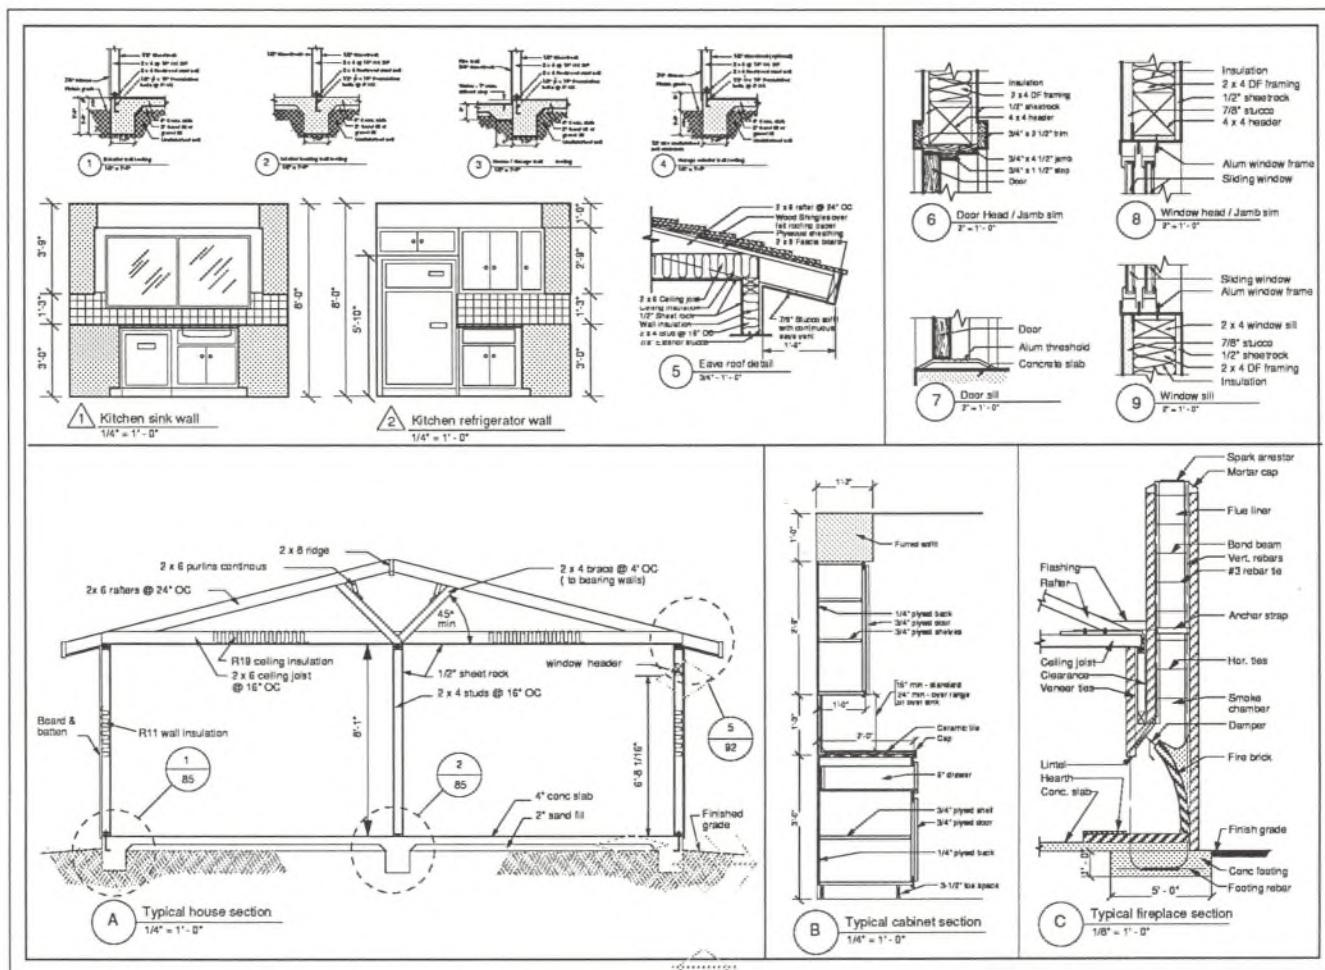

Fig. 25.1 An example of a typical detail sheet. (Reproduced in reduced scale.)
Detail and section views of miscellaneous parts of a building are grouped together on one page of the set of plans. This page is referred to as a detail sheet. Fig. 25.1 is an example detail sheet in reduced size.
It is not possible for the drafter to draw details of the entire building, therefore parts that show the most detail are selected and details drawn of them. These parts reveal such things as nailing, bolt connections, metal straps, shear panels, etc. Figure 25.1 is an example of a detail sheet.
3. Referring to your list of items to be included on this sheet, lay out blocks of space for each of the details you have listed, using light pressure on a 4H lead. Judge the size of the space required by checking Figs. 25.1 through 20. Choose larger or smaller scales as necessary to fit space allowances. Allow room for any necessary notes.